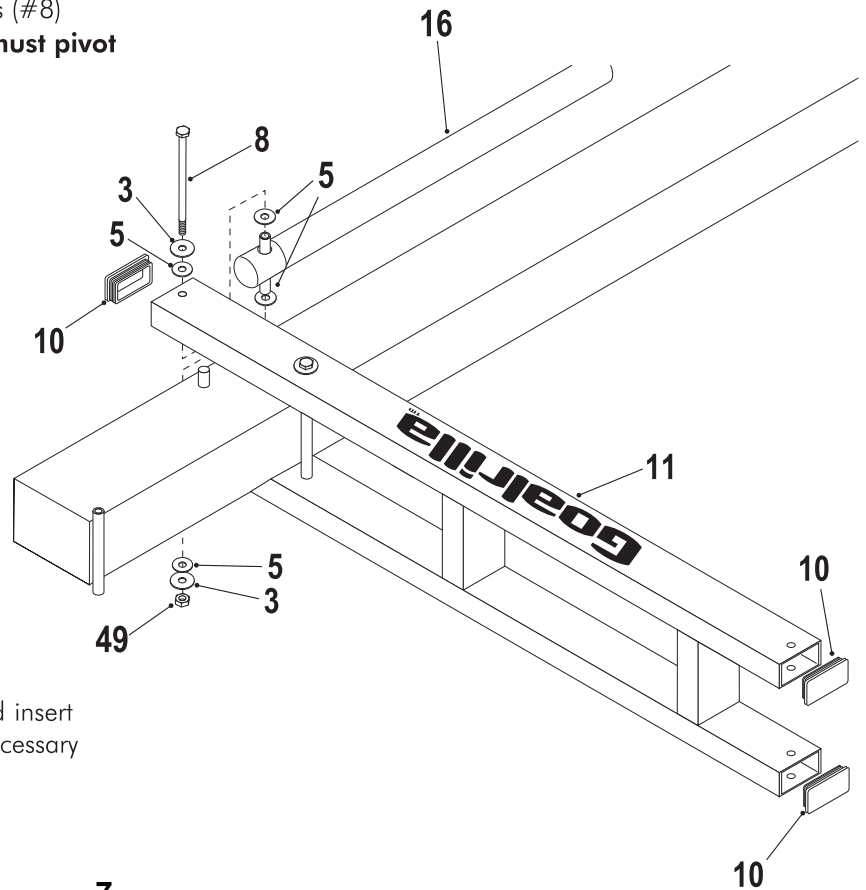

Figure 6
- Secure Actuator (#16) to Lower Arm (#11) using one bolt (#8), two flatwashers (#3), four plastic washers (#5) and one thin locknut (#49). See Figure 6. Tighten both bolts (#8) **snug but, do not over tighten. Board Arms must pivot freely.**